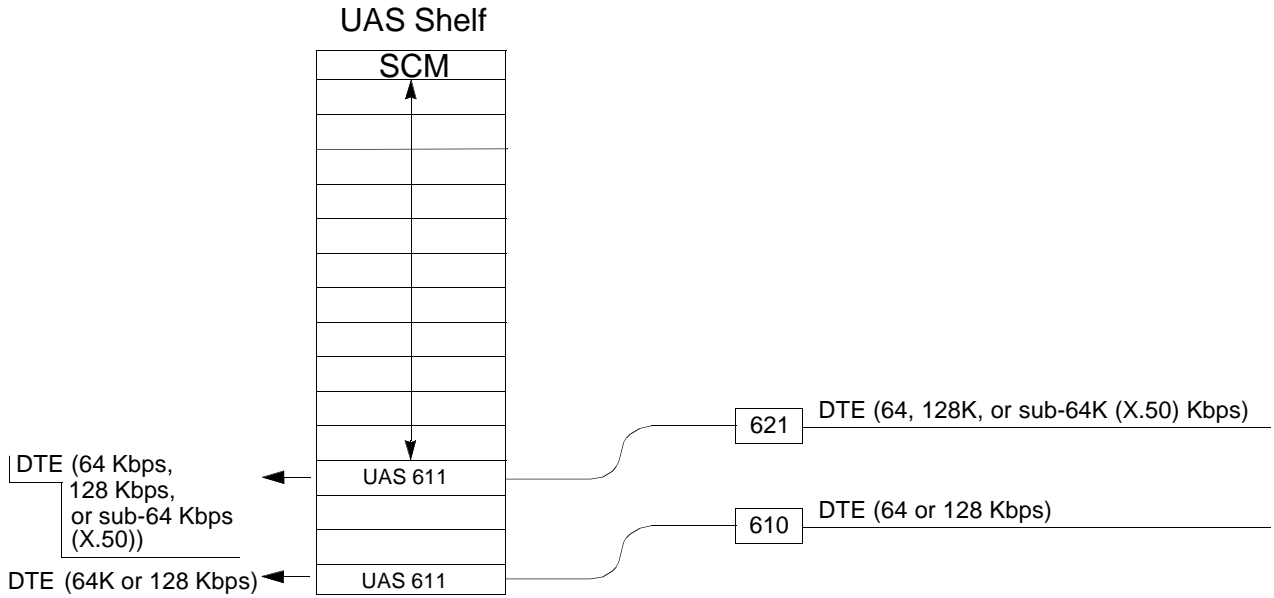

Figure 1-1 Point-to-Point Applications
*Figure 1-1* shows a typical point-to-point application. In this application, the 611 and 621 network elements are configured and controlled by a SCM.